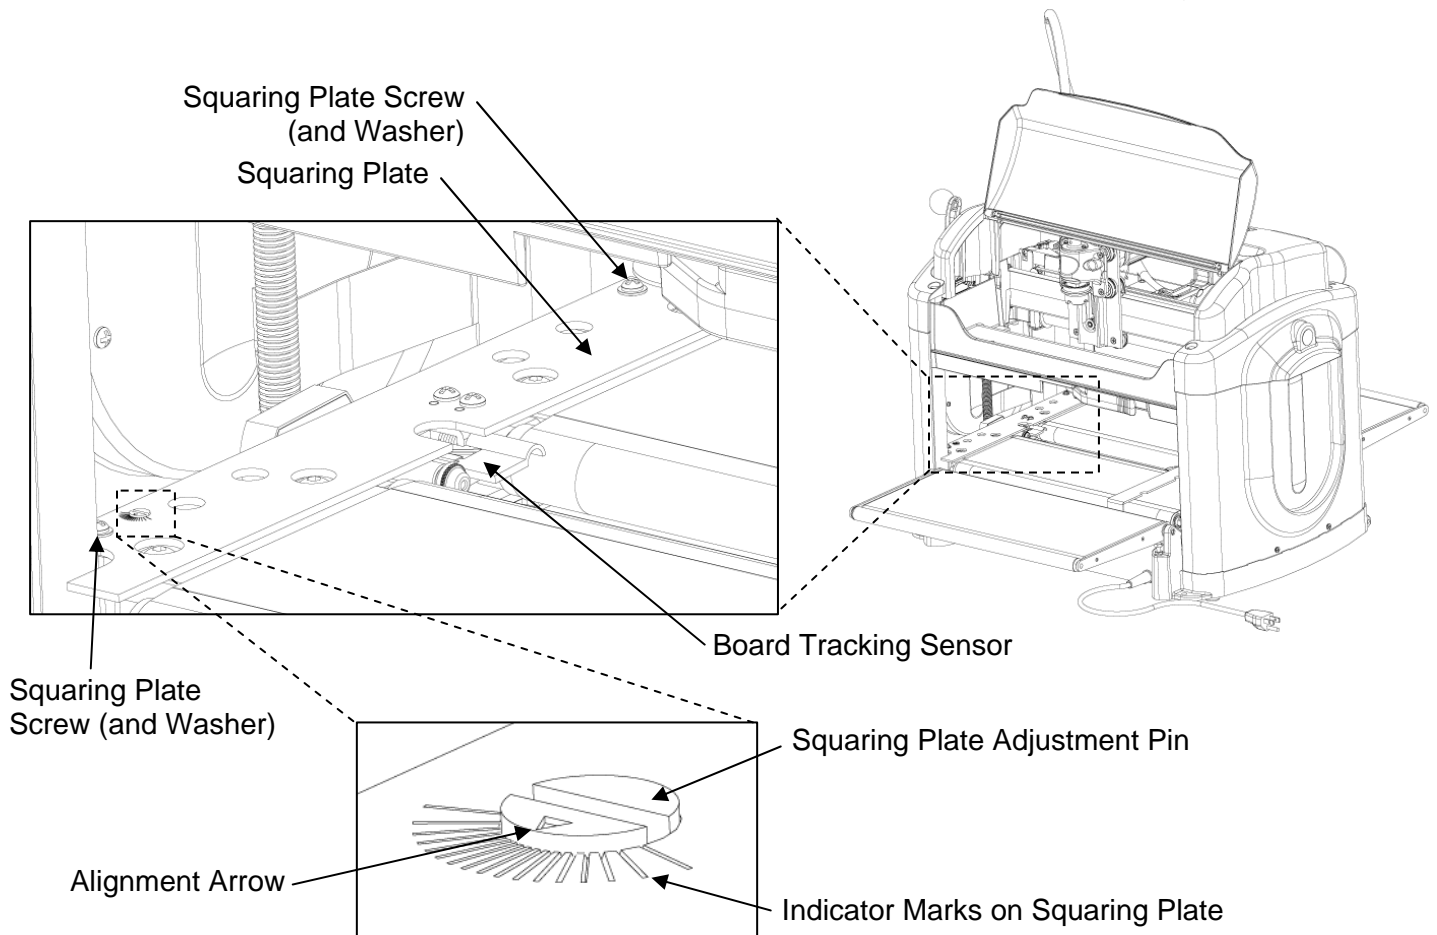
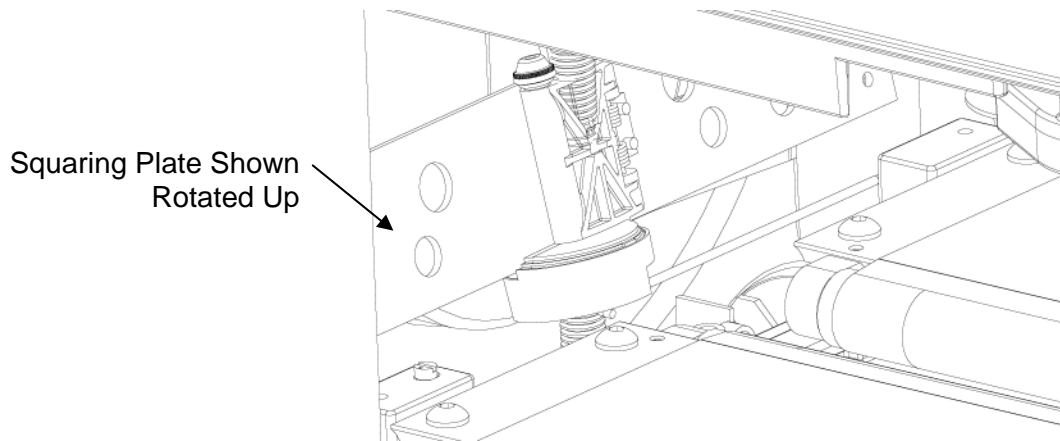

FIGURE 1: DETAILED VIEW OF THE SQUARING PLATE ATTACHMENT
FIGURE 2: FREED SQUARING PLATE
2. **Free the squaring plate from the base.** Remove the two screws (see Figure 1) holding the squaring plate in place rotate it up as shown in Figure 2.
- 3. Plug in the board tracking sensor.** Insert the squaring plate with board tracking sensor into the machine. Orientate it as shown in Figure 2 so that you have access to the connector on the back of the sensor from below. Before attempting to plug in the cable make sure to take note of the position of the orientation slots on the connector and the keys on the plug. Insert the cable into the connector so that the keys go into the slots.